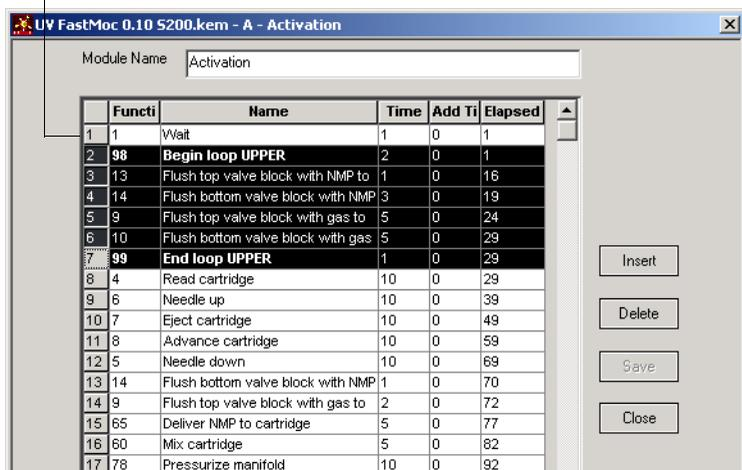

Figure 7-10 Selecting a Step
2. Click the number of the cell corresponding to the step to copy (Figure 7-10).